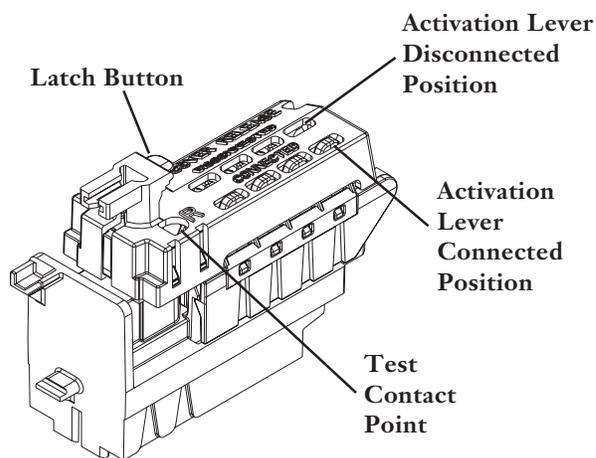

Figure 6 — Open Module
- Step 1** Open module cover by pushing the latch button and pulling upwards (Figure 6). Cover can be snapped off hinges for easier wiring.
- Step 8** Close the module cover and check activation lever position through cover. It should be in the connected position as seen in Figure 6.
- Step 1** Connect to the test contact point (Figure 6).